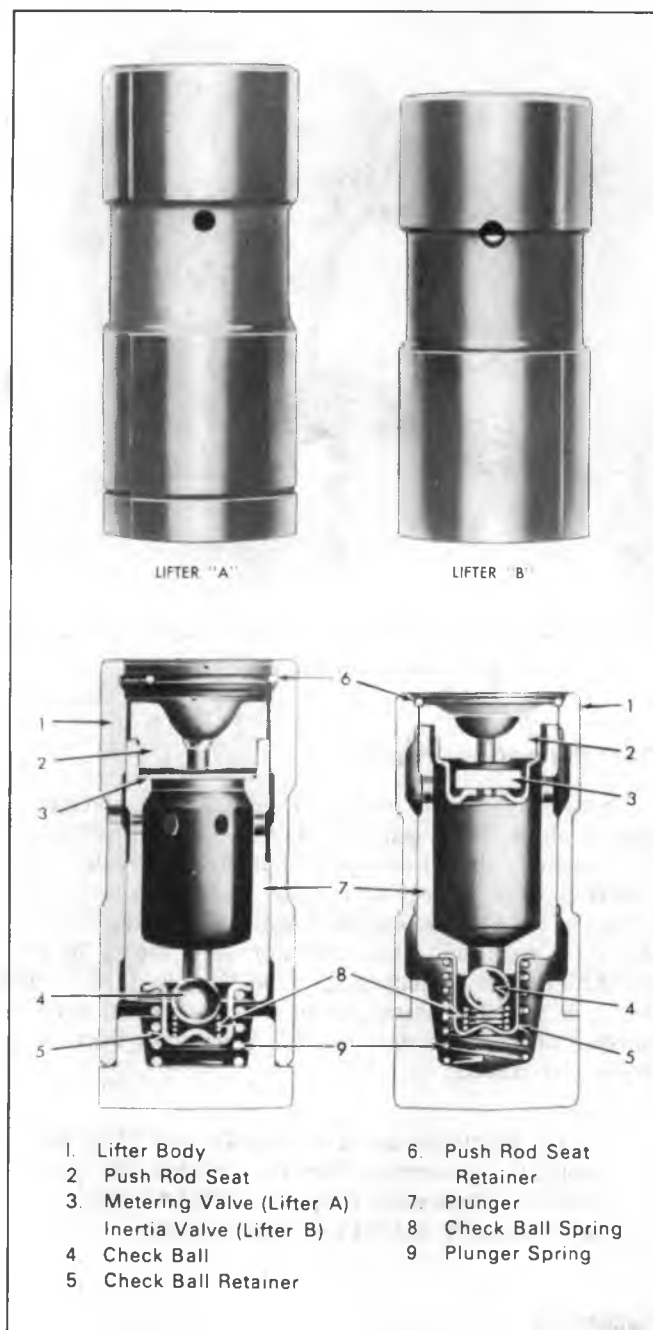

Fig. 30--Hydraulic Valve Lifters
Two types of hydraulic lifters are used. Both types of lifters operate on the same principle and are serviced basically in the same manner. The complete lifter assemblies are interchangeable but parts from one lifter are not interchangeable with another. Both lifters are easily identified by the outside configuration of the lifter body. For purposes of identification we refer to them as lifter "A" and lifter "B" (fig. 30).
- "A") or the push rod seat and inertia valve assembly (lifter "B") (fig. 30).
**NOTE:** Inertia valve and retainer (lifter "B") (fig. 30) should not be removed from the push rod seat. To check the valve, shake the push rod seat and inertia valve assembly and the valve should move.
**NOTE:** On lifter "B" (fig. 30) the drift pin must not extend inside the plunger.
7. Install the metering valve and push rod seat (lifter "A") or the push rod seat and inertia valve assembly (lifter "B") (fig. 30).